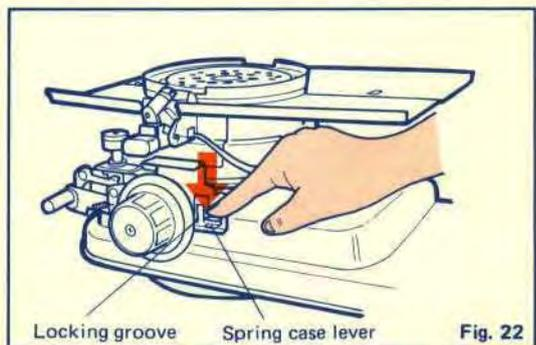

Fig. 22
11. Push down on the spring case lever to insert it into the locking groove (Fig. 22).